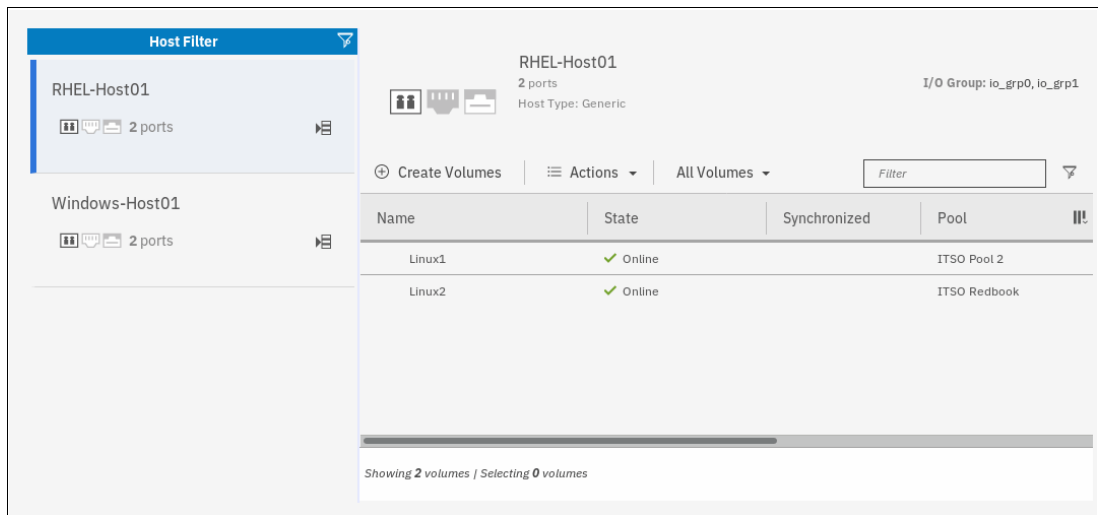

Figure 8-71 Volumes by Host window
2. The Volumes by Host window opens, as shown in Figure 8-71.